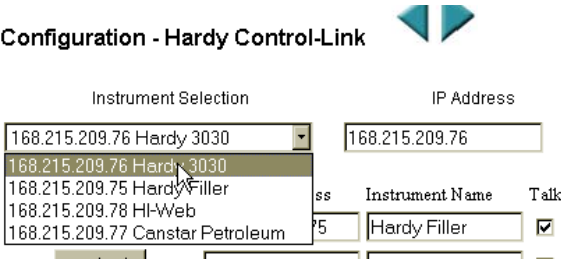

FIG. 255: HARDY CONTROL-LINK PAGE/
Step 2. Click on Hardy Control Link. The Configuration-Hardy Control-Link page appears. (See Fig. 255)